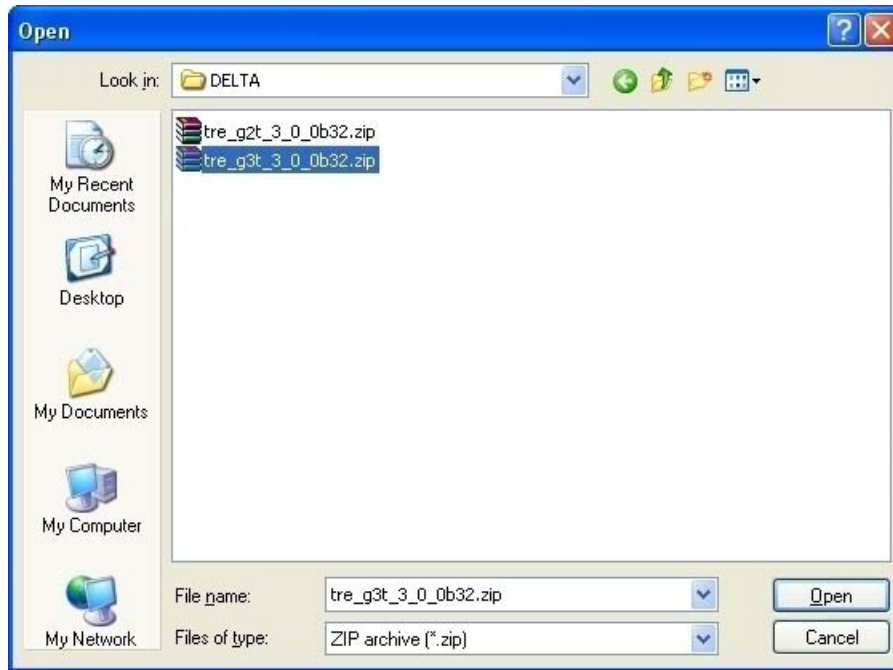

Figure 5-17. New firmware package
6. Open the required firmware folder. Select the .zip file and click *Open* (Figure 5-17):